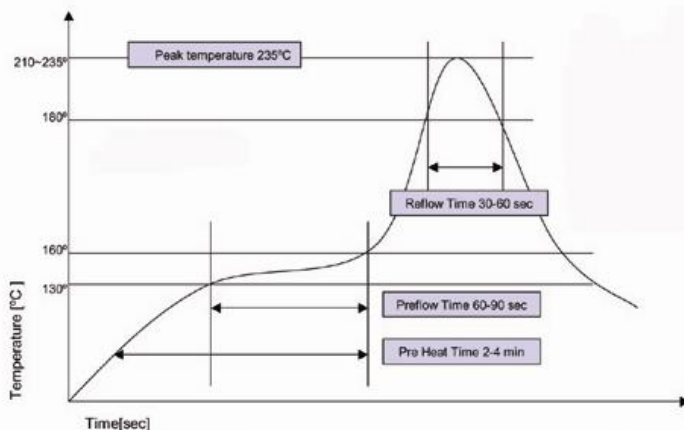

**Figure 3: Component Placement**
**Coupler Positioning:** The surface mount coupler can be placed manually or with automatic pick and place mechanisms. Couplers should be placed (see Figure 3 and 4) onto wet paste with common surface mount techniques and parameters. Pick and place systems must supply adequate vacuum to hold a 0.069 gram coupler.